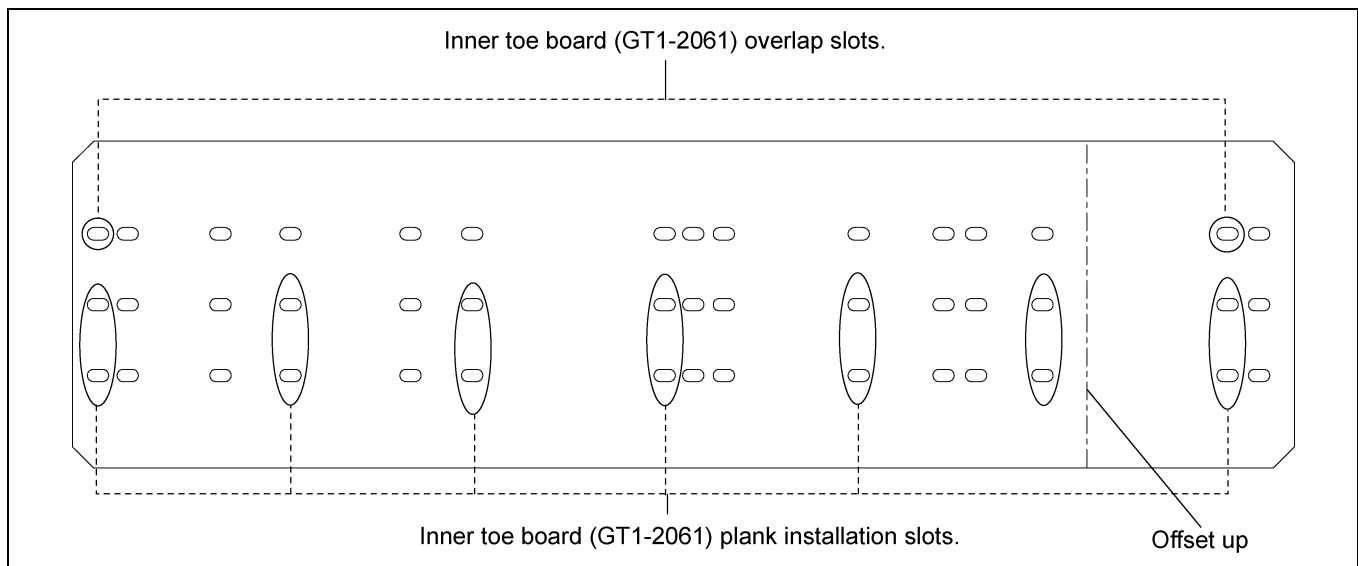

Figure 5K 12' Inner Toe Board (GT1-2061)
3. Inner toe board is arranged with overlap slots on each side and plank installation slots. Install 12' inner toe boards (GT1-2061) to corresponding overlap and plank installation slots as shown in Figure 5K.